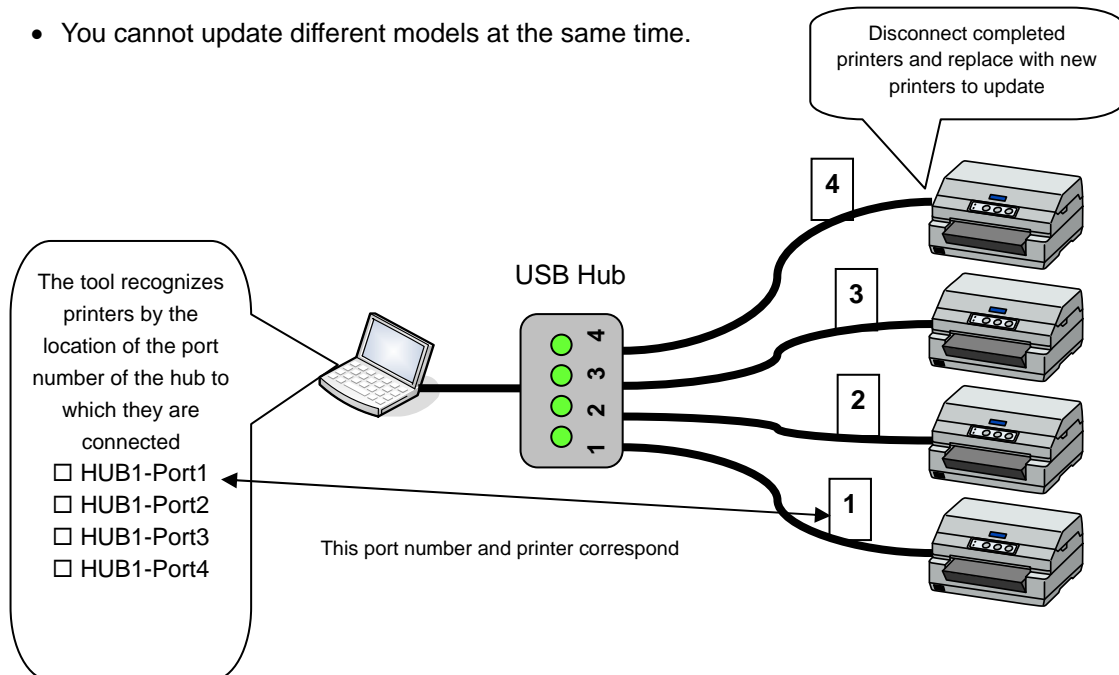

Figure 10 Example of Printer and USB Hub Connection
- 4) Connect the same model of device to the USB hub as shown in Figure 10.